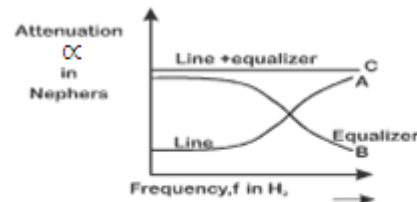

Fig.1.13 Frequency response of equalizer
- ❖ The equalizer will then have characteristics as shown in fig 1.13.
- ❖ The curve(C) shows that attenuation is almost constant at all frequencies.